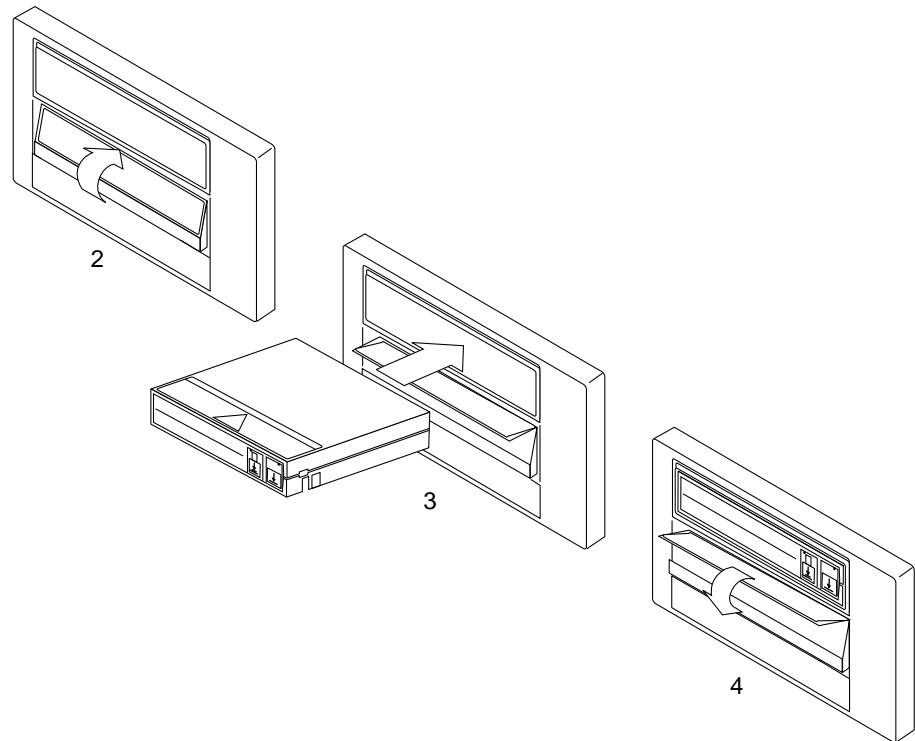

Figure 3-3 Loading a Tape Cartridge
2. **Lift the cartridge insert/release handle (Figure 3-3).**